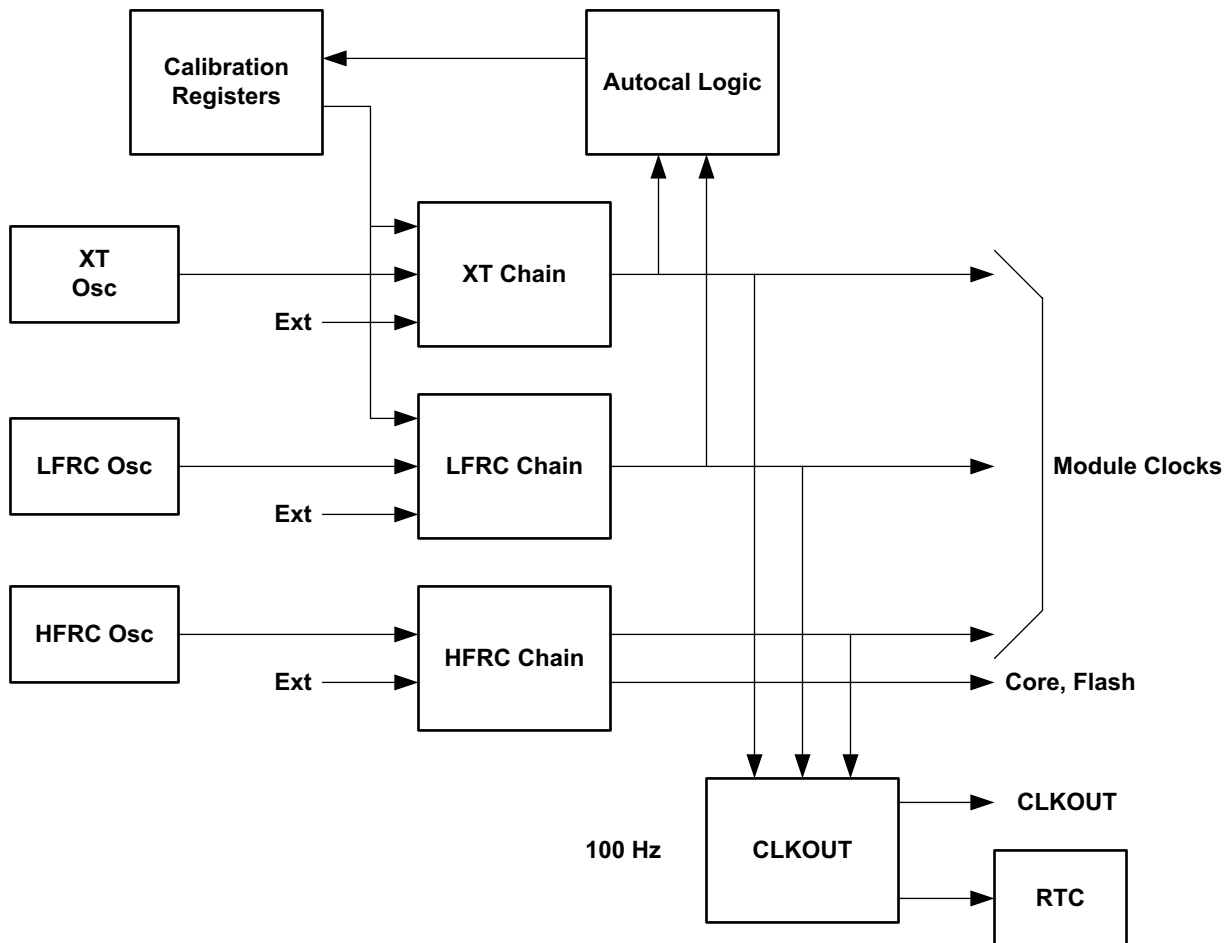

Figure 38. Block diagram for the Clock Generator and Real Time Clock Module
The Clock Generator Module, shown in Figure 38, supplies all clocks required by the Apollo MCU. These clocks are derived from one of three internal oscillators: a high precision crystal controlled oscillator (XT), a low power 1 kHz RC oscillator (LFRC) and a high frequency 24 MHz oscillator (HFRC). The output of the XT oscillator may be digitally calibrated to ± 1 ppm (part per million), and the output of the LFRC oscillator may be digitally calibrated to ± 2 ppm.